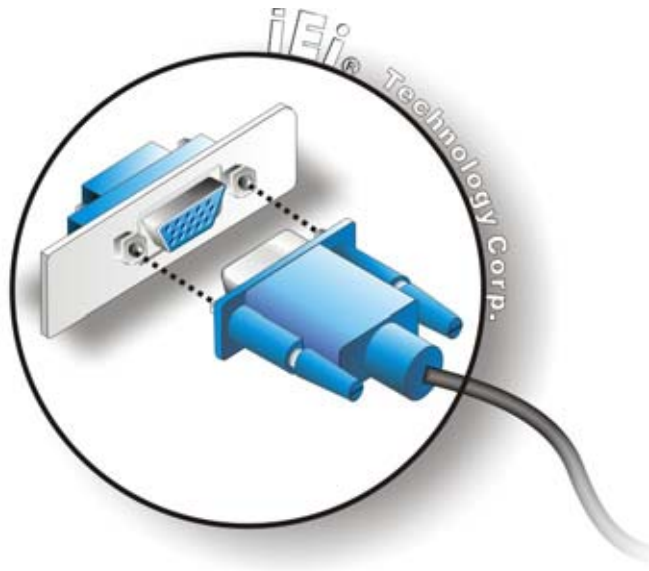

Figure 2-8: VGA Connector
Step 3: Insert the VGA connector Once the connectors are properly aligned with the insert the male connector from the VGA screen into the female connector on the EP-308A. See Figure 2-8.